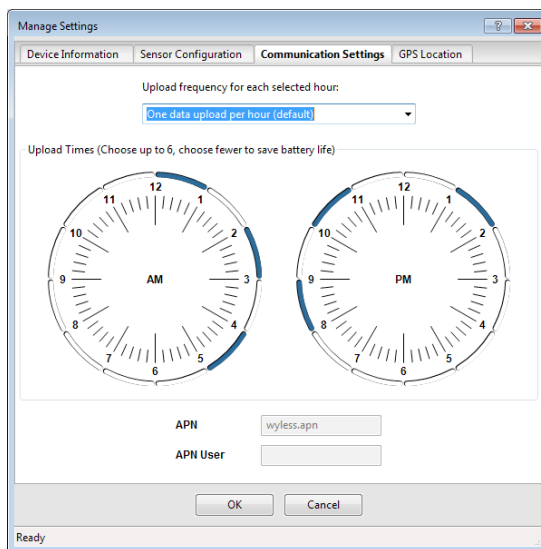

Figure 7 Communication Settings tab
12. Navigate to the Communication Settings tab (Figure 7).